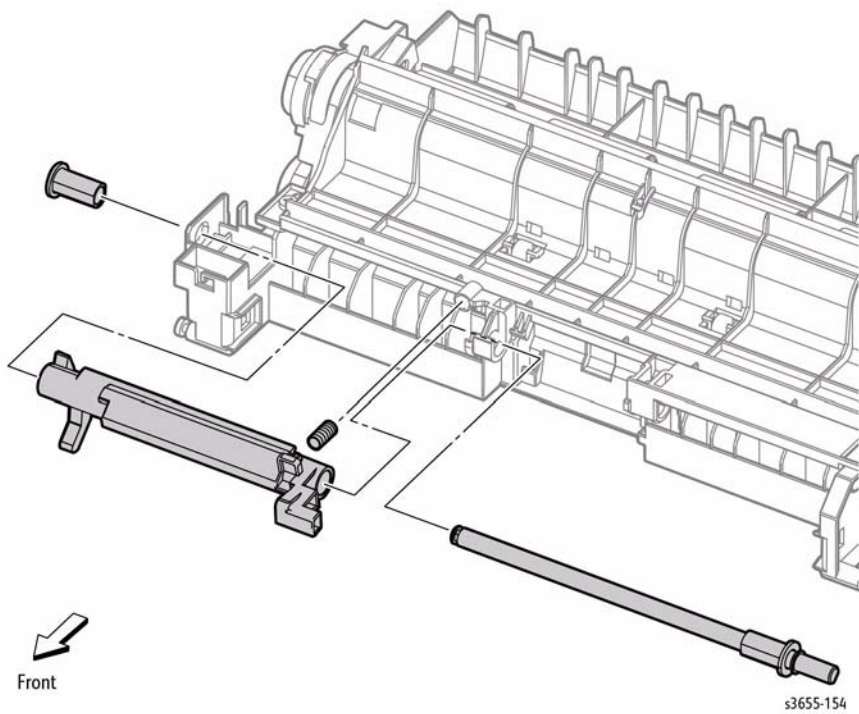

Figure 2 Remove the MSI Lifter Lever and Shaft
3. Refer to Figure 2 to locate and remove the registration spring and feed bearing, then remove the MSI lifter lever and shaft.